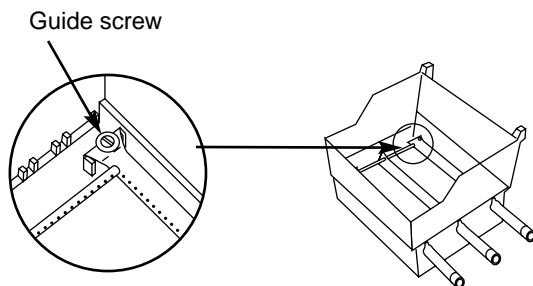

Figure 13
- f) Slide the burner assembly out from under the guide screw and washer in the corners of the cooking box. Figure 13.